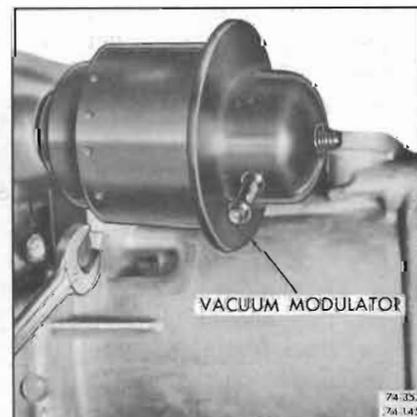

Figure 74-353
3. Install vacuum modulator retainer. Install retainer so tang points toward vacuum modulator. Torque bolt to 8-12 lb. ft. See Figure 74-353.